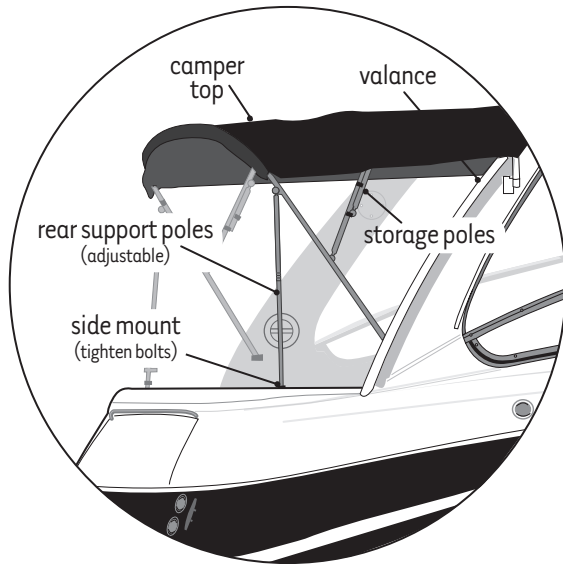

Figure O-7: Camper Canvas Installation
- 1) With the long support poles in the back and the smaller, storage poles in the front (toward the radar arch), attach the camper top frame to the side mounts. See Figure O-7.